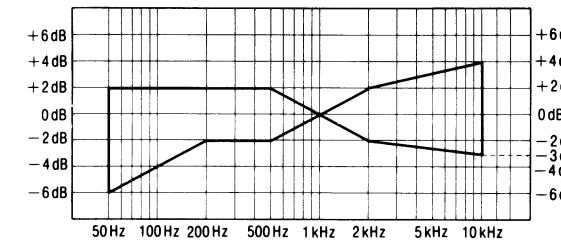

Fig. 7
4. Playback the signal recorded in step 3, and check that the level of each output frequency is within the range shown in Fig. 7 in comparison with the reference frequency (1kHz).